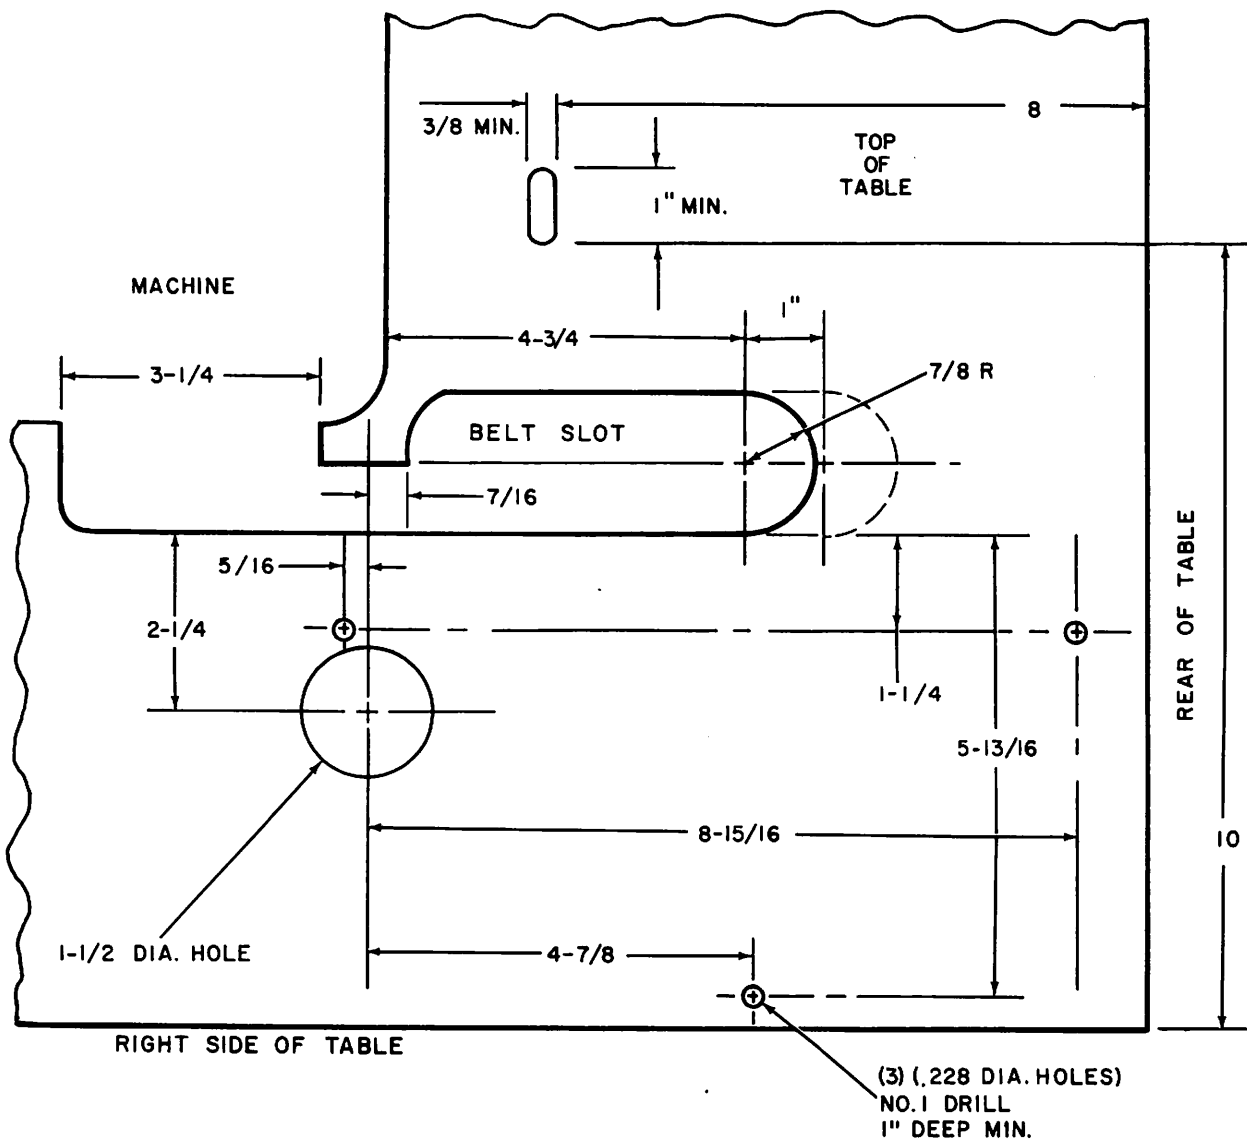

Figure 2....Sewing Table Top
### 2-2. PREPARATION OF SEWING TABLE (See Figure 2)
are shown in Figure 2.
(See Figure 2).
- (d) Remove the unit and drill 3 holes using the proper size drill. (Figure 2)